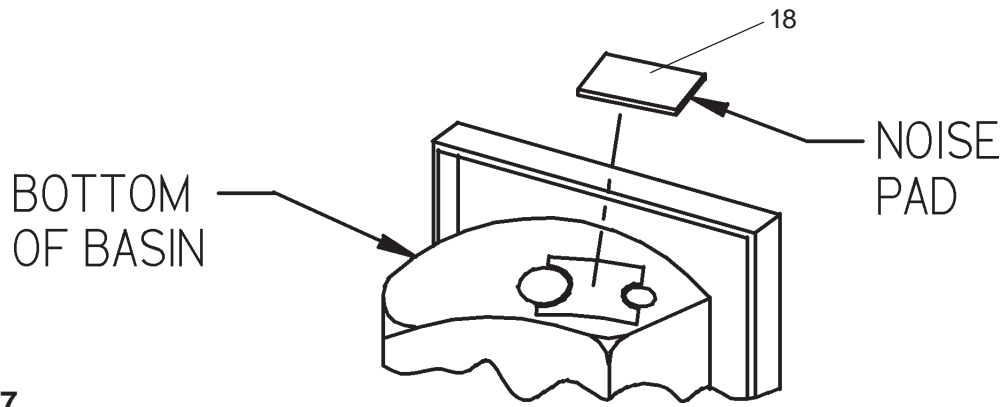

FIG. 7
3. Remove noise pad from paper and locate on bottom back of the basin between the drain and the bubbler holes. **CAUTION: TO INSURE PAD DOES NOT INTERFERE WITH THE HOLE AREAS, TRIM THE PAD SO THERE IS APPROX. 1/2" CLEARANCE AROUND THE HOLES.** (See Fig. 7)